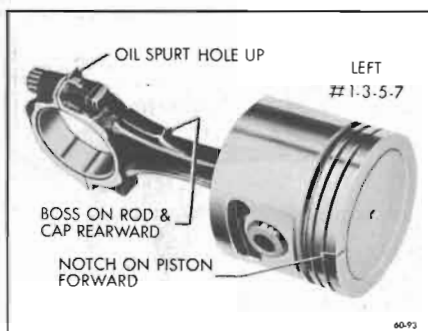

Figure 60-93—Left Bank Piston and Rod Assembly
2. If the piston and rod assembly is to be installed in the left bank, the assembly must be made as shown in Figure 60-93.
15. Install all other piston and rod assemblies in same manner. When piston and rod assemblies are properly installed, the oil spurt holes in the connecting rods will be "up" toward the camshaft, the rib on the edge of the rod cap will be on the same side as the conical boss on the connecting rod web, and these marks, (rib and boss) will be toward the other connecting rod on the same crankpin. See Figure 60-93 and 60-94.